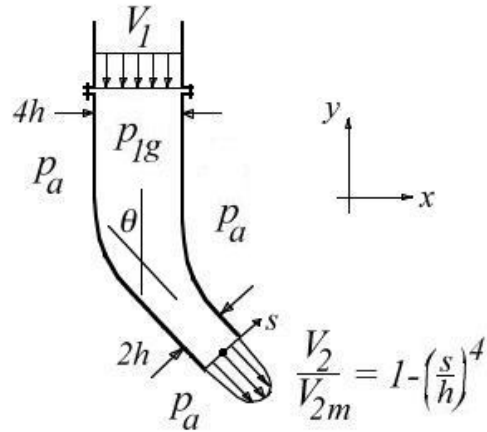

Figure P3.44
3.44 A rectangular duct of constant width w carries a steady air flow of constant density ρ as shown in Figure P3.44. The velocity V_1 is constant across the inlet area, and the outflow velocity V_2 has a velocity profile described by a quartic function, with a maximum value of V_{2m} . The flow exits to atmospheric pressure, and the gauge pressure at the inlet is p_{1g} . Ignore viscous effects and gravity.